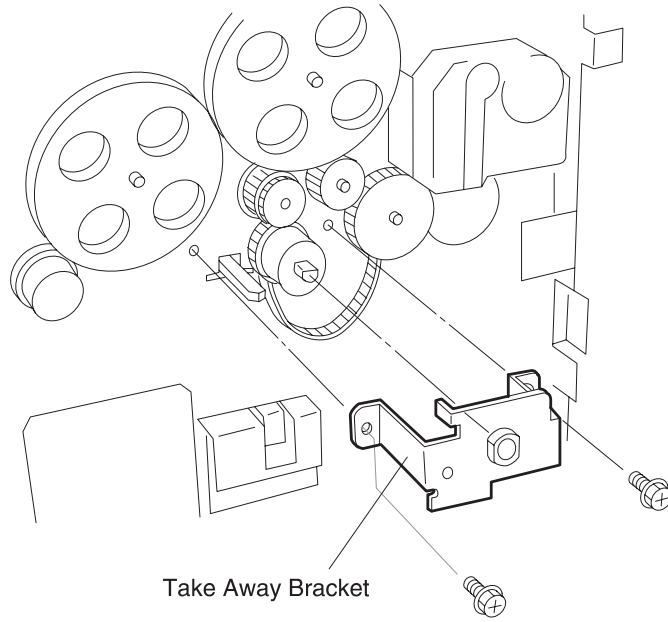

Figure 1
3. Remove two screws securing the Take Away Bracket to the frame and remove the Bracket (Figure 1).